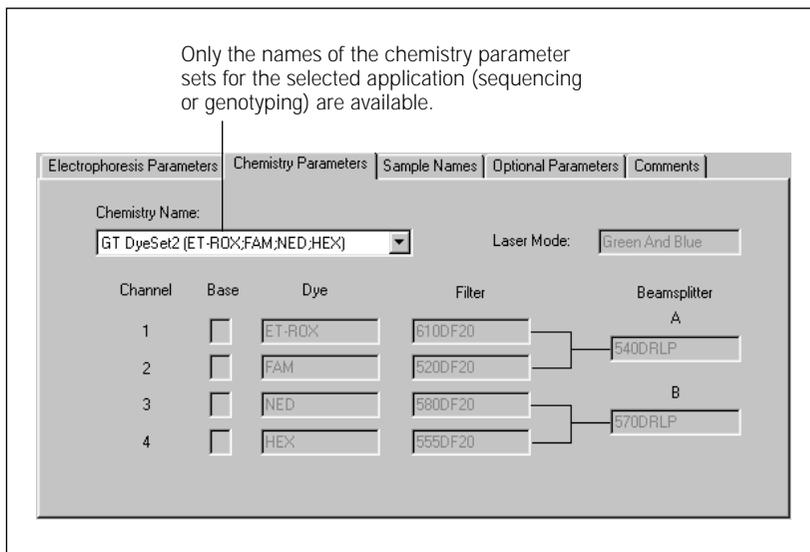

Figure 6-2. The Chemistry Parameters tab of the Plate Setup window displaying a set of values for the genotyping application.
- **Application**—Required field if you are defining a parameter set for an application other than sequencing. If you do not specify the application, the Instrument Control Manager assumes that the chemistry parameter set is for the sequencing application. Only the names of the chemistry parameter sets for the selected application appear in the Plate Setup window (figure 6-2).
5. Verify that the changes appear in the Chemistry Parameters tab of the Plate Setup window (figure 6-2). If the name for a new or revised chemistry parameter set does not appear in the Chemistry Name list for a selected application, check the parameters in the Chemistry.ini file for syntax errors. Syntax errors can include—